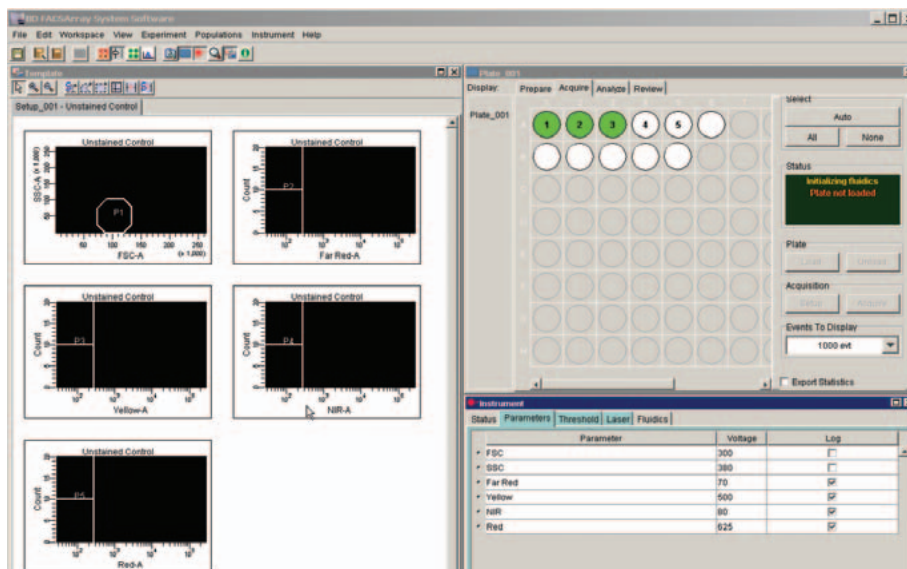

Figure 11
- The plate view shows that the setup wells have been selected for acquisition, and they are numbered in the acquisition order (Figure 11).